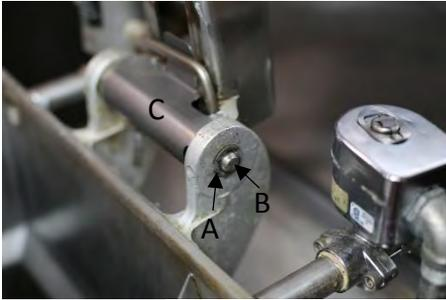

Figure 4.
5. Inspect the hinge pin to ensure it is not missing, damaged or broken. Make sure that the retaining clips are securely in place on each side of the pin (figure 4). If any of these situations are true, take the fryer out of service until the components are replaced.